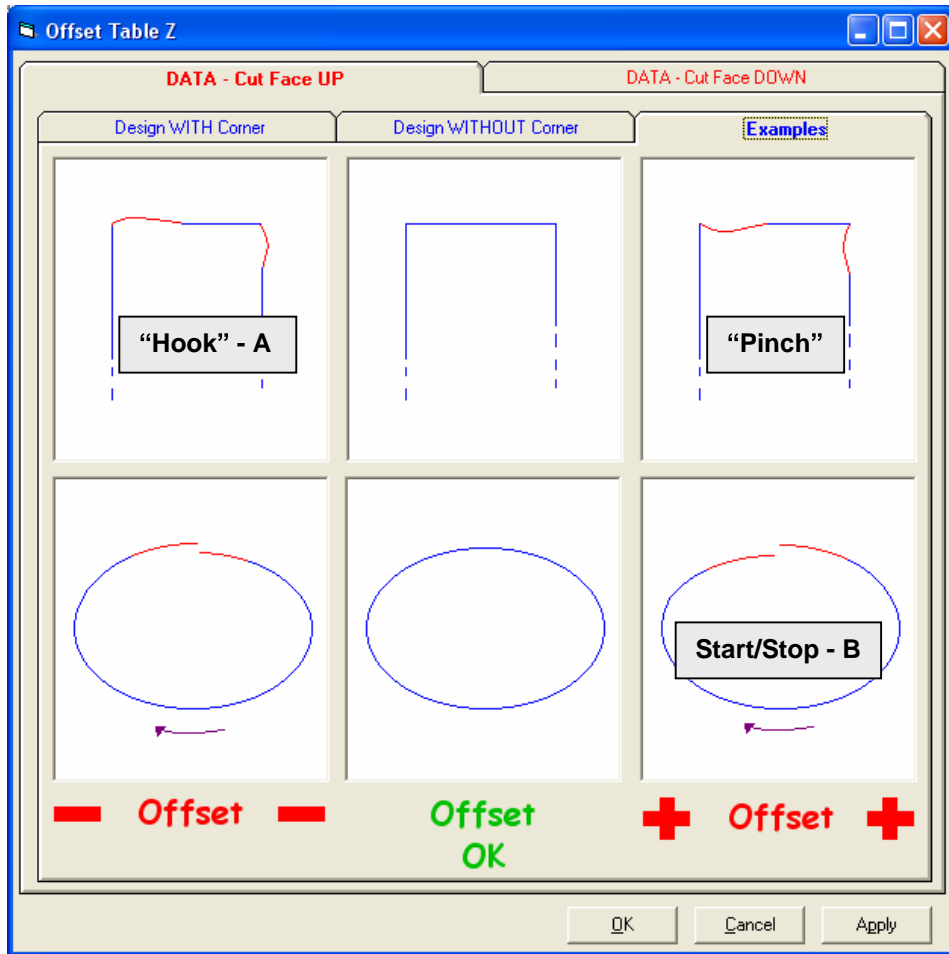

Figure 2.28: "Hook" and Oval Start/Stop Mark Samples and Corrections
**Design WITH Corners:** This tab allows blade angle corrections (“hooks,” etc.) for standard clockwise (CW) and reverse-bevel (CCW) cuts, as well as V-groove cuts which consist of both a clockwise and counterclockwise cut. Designs with Corners consist of any shape where the blade plunges and retracts completely at an intersection point, i.e. rectangle, hexagon, etc. Default settings for these cuts are generally quite accurate and should not be changed without consulting Fletcher Technical Services (see the *Examples* tab, Figure 2.28, for graphical samples of cut issues and Offset corrections).
If there is a noticeable start/stop mark in the bevel for a circle or oval cut, first determine from the Examples tab (Figure 2.28) which type of mark it is (+ or -). Increase or decrease the correct direction Offset number slightly and make a test cut. Continue the process until the start/stop blade mark has been minimized to an acceptable level. **Note:** The sample drawings shown in the Examples tab are exaggerated for clarity.